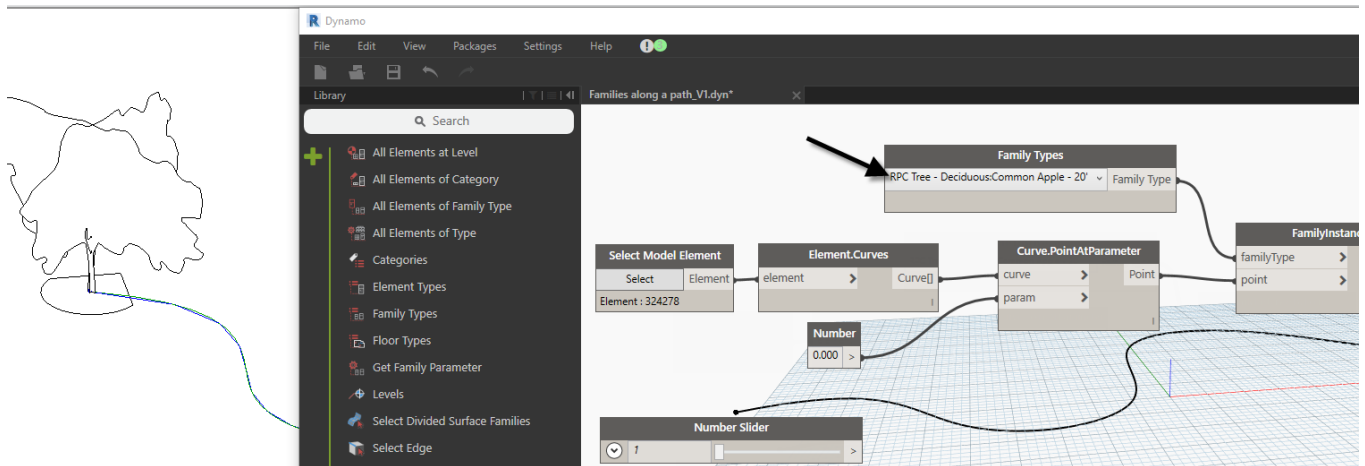

FIGURE 33
7. From the drop-down on the **Family Types** node, choose an RPC tree family (see Figure 33).